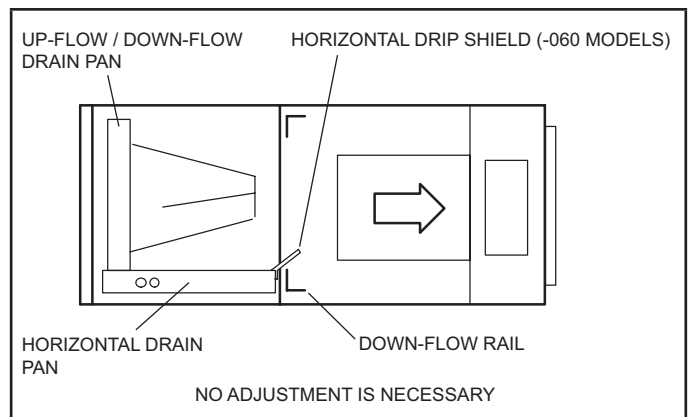

FIGURE 7. Right-Hand Discharge Configuration
- 2 - Install the horizontal drip shield (-060 model) on the front edge of the horizontal drain pan as illustrated in figure 7.